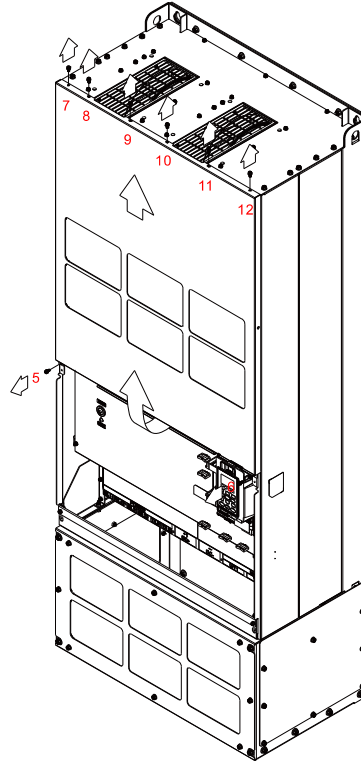

Figure 2
2. Loosen the screw 5~12 and remove the top cover (figure 2). Screw torque: 24~26kg-cm / [20.8~22.6 lb-in.] / [2.4~2.5 Nm]